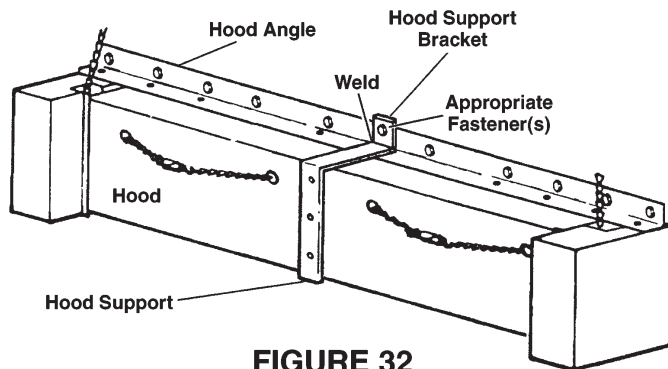

FIGURE 32
- Place hood support assembly onto the hood and attach it securely to the header/lintel as shown in Figure 32.